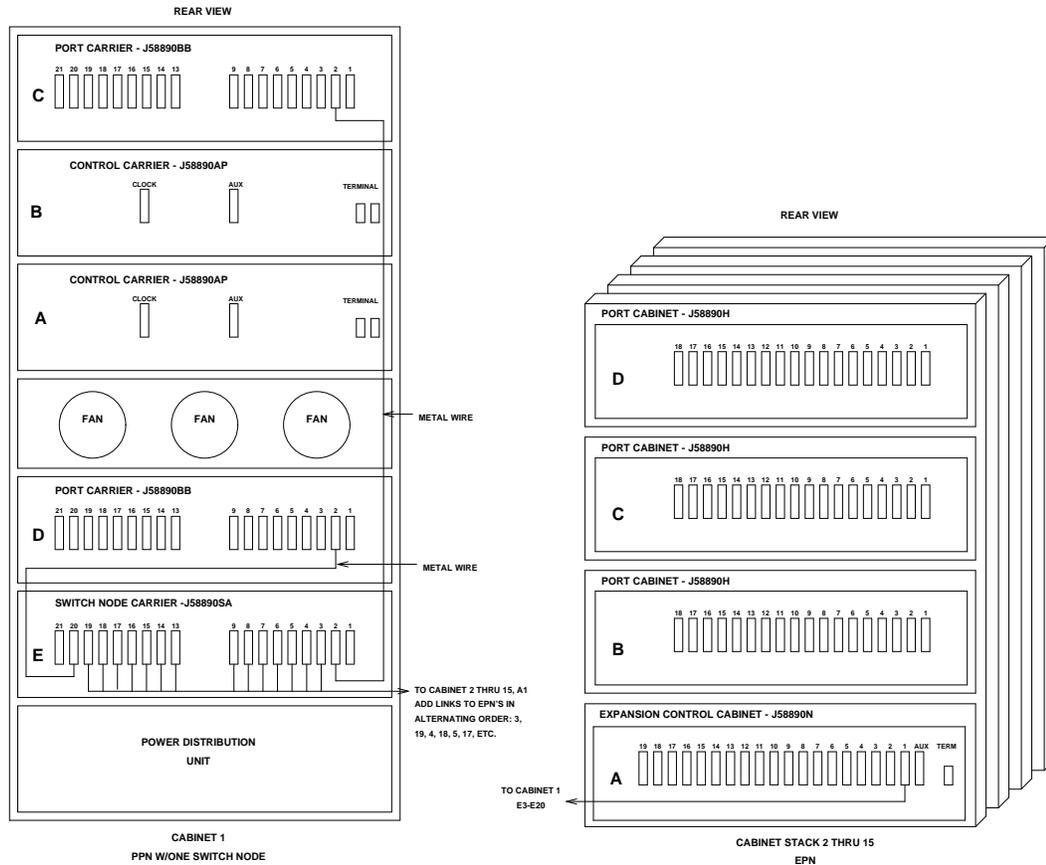

Figure 3-32. Fiber-Optic Connections through Center Stage Switch
1. Behind the PPN cabinet (see Figure 3-32):
2. Behind switch node carrier E of PPN cabinet 1 (see Figure 3-32):